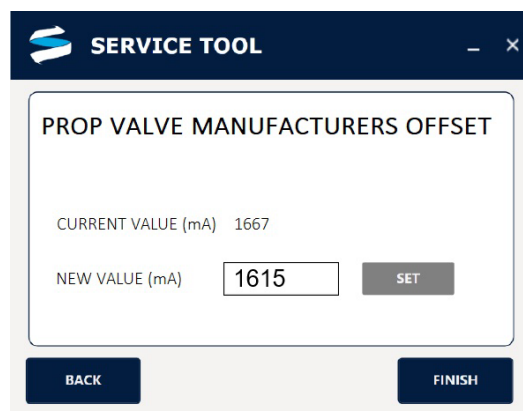

Figure 25: PVMO screen in Service Tool
- b. **ENTER** new PVMO value of **1615** (Fig. 25).